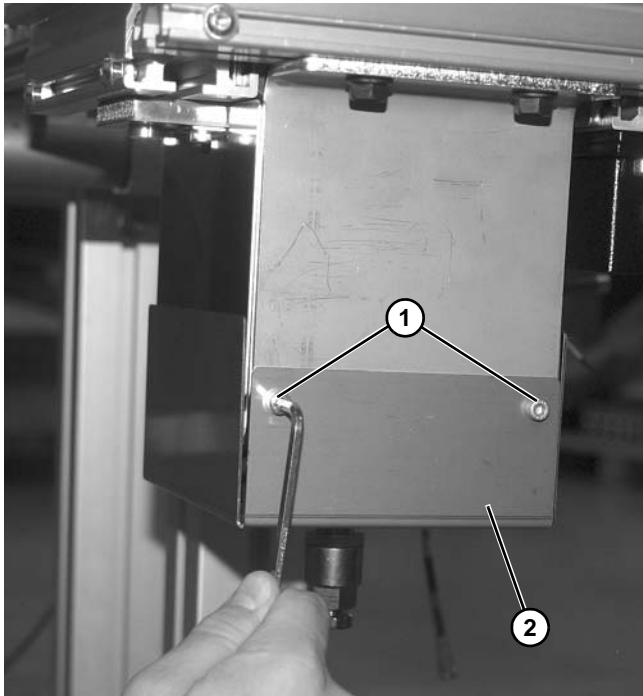

Figure 105
2. Remove optional guarding by removing two screws (Figure 105, item 1) from each side of guard (Figure 105, item 2). Remove guard from around lower end of cylinder assembly.